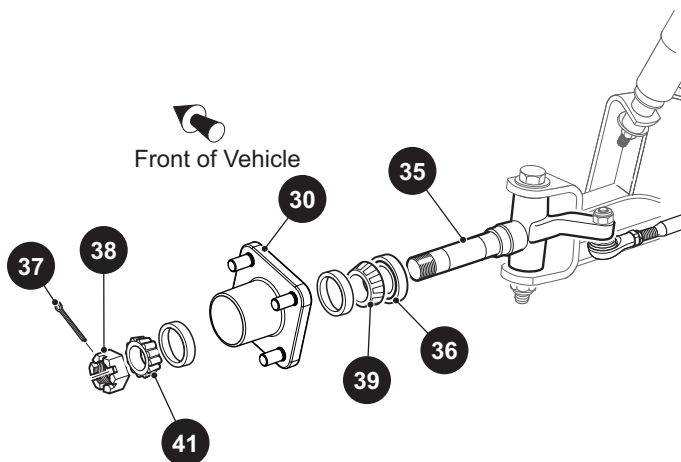
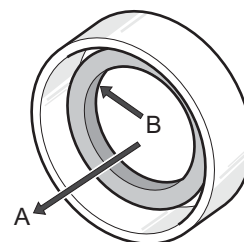

Figure 8 Hub Replacement
Figure 9 Seal Installation
3. Remove the cotter pin (37) and castellated nut (38) (Ref. Figure 8).
4. While holding the outer wheel bearing (41) in place, slide the hub (30) from the spindle (35).
7. Apply a light coat of grease to the inner race and place the inner wheel bearing (39) in the hub.
8. Orient the new grease seal (36) so that the flange side of the seal is facing into the bore.
10. Lubricate lips of seal and spindle with grease (Ref. Figure 9).
11. Place the new hub (30) onto the spindle (35) and fill the area between the two wheel bearings about 1/2 - 3/4 full with grease and apply a light coating to the outer bearing race.
12. Install the outer wheel bearing (41) and secure the hub (30) loosely with the castellated nut (37).